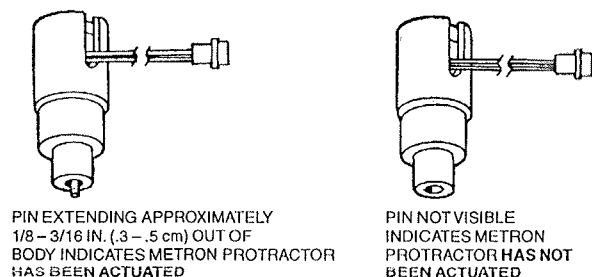

FIGURE 2
5. Discard used METRON PROTRACTOR assembly. A discharged METRON PROTRACTOR will have the stainless steel pin extending approximately 1/8 - 3/16 in. out of the bottom. On a new METRON PROTRACTOR, the pin will not be visible. See Figure 2.